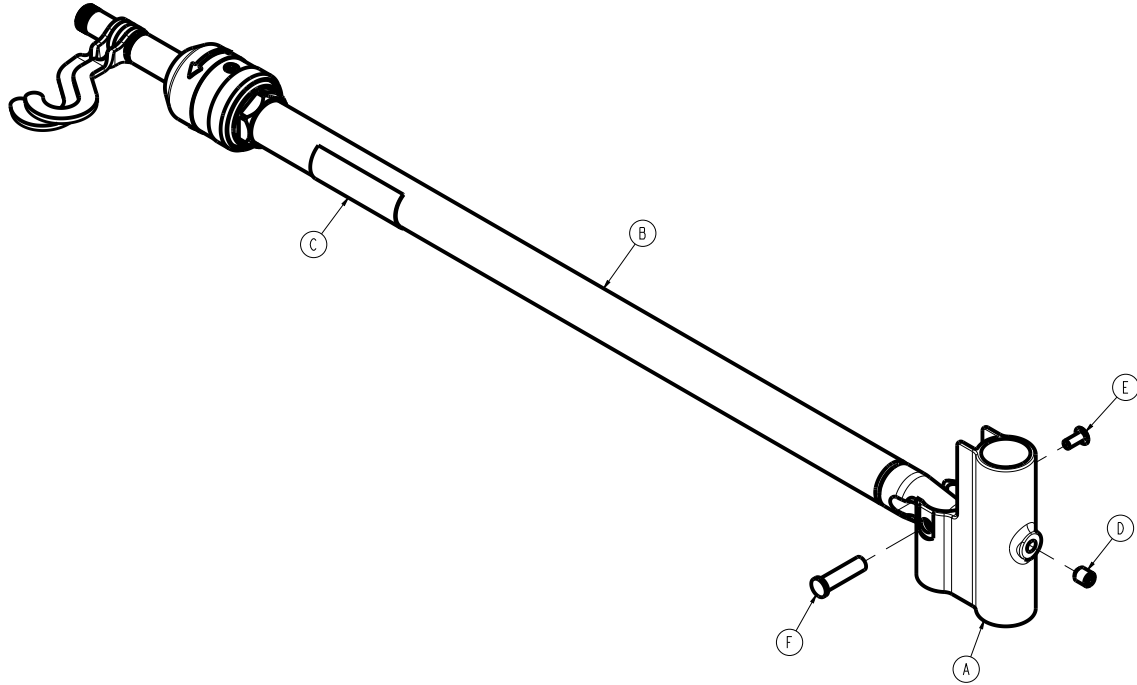

Figure 77 – Attaching the dual IV pole, bottom
7. Using a 5/32" hex wrench, tighten the set screw (D) to secure the bottom IV receptacle (A) to the bed IV post (Figure 77).